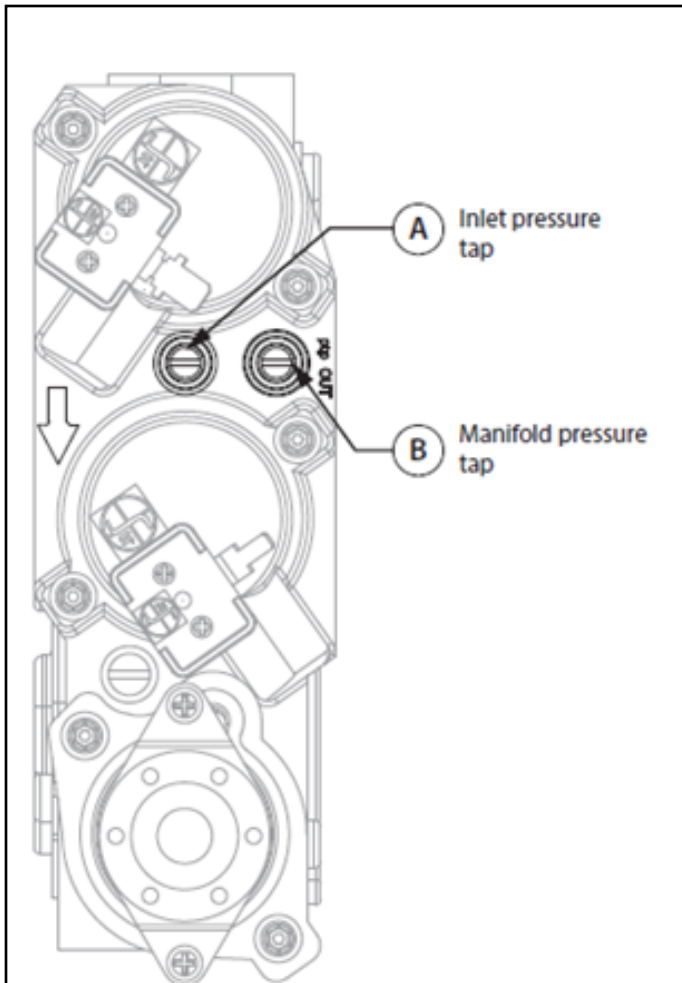

Figure 12.1, Pressure Check Taps
1. Loosen the inlet (IN) pressure tap by turning screw counter-clockwise. See (A) in FIGURE 12.1.
5. Disconnect hose and tighten the inlet (IN) pressure tap by turning screw clockwise. Screw should be snug. Do not over tighten.
6. Relight pilot and burner. Then reattach manometer to the inlet pressure tap (A) to verify the tap is completely sealed. Manometer should read no pressure.
2. Loosen manifold (OUT) pressure tap by turning screw counter-clockwise. See (B) in FIGURE 12.1.
7. Attach the manometer to the manifold pressure tap (B) to verify it is completely sealed. The manometer should read no pressure when pilot and burner are on.